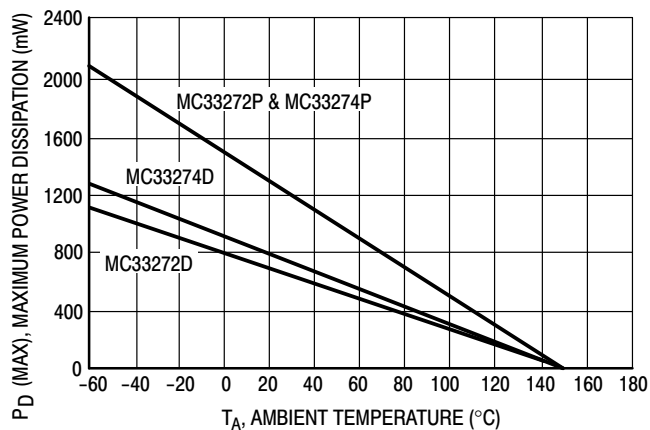

Figure 2. Maximum Power Dissipation versus Temperature
2. Power dissipation must be considered to ensure maximum junction temperature (T_J) is not exceeded (see Figure 2).